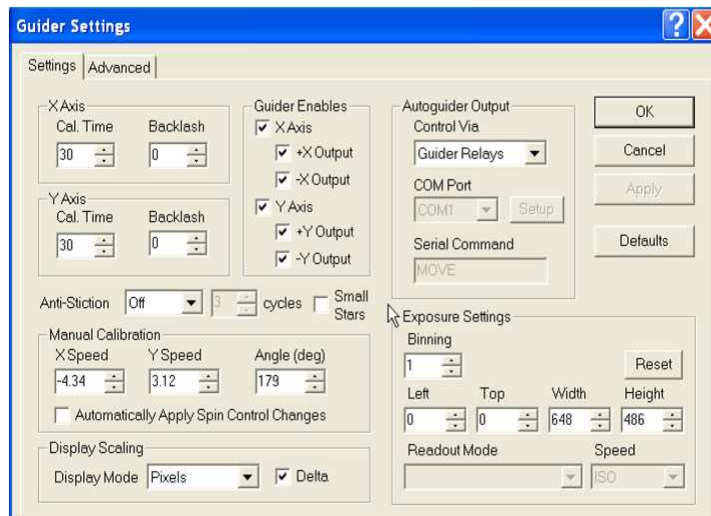

Figure 7.5: Required guider settings options.
- In the "Guide" tab set the "Aggressiveness" to x=2 y=2. Then press "Settings" and setup the guide parameters: XSpeed= -4.34 YSpeed= 3.12 and angle= 179 (these parameters may change - Check the observers folder in the eShel web-site). Once the parameters are set press "Apply" to save and close the "Settings". See Figure 7.5.